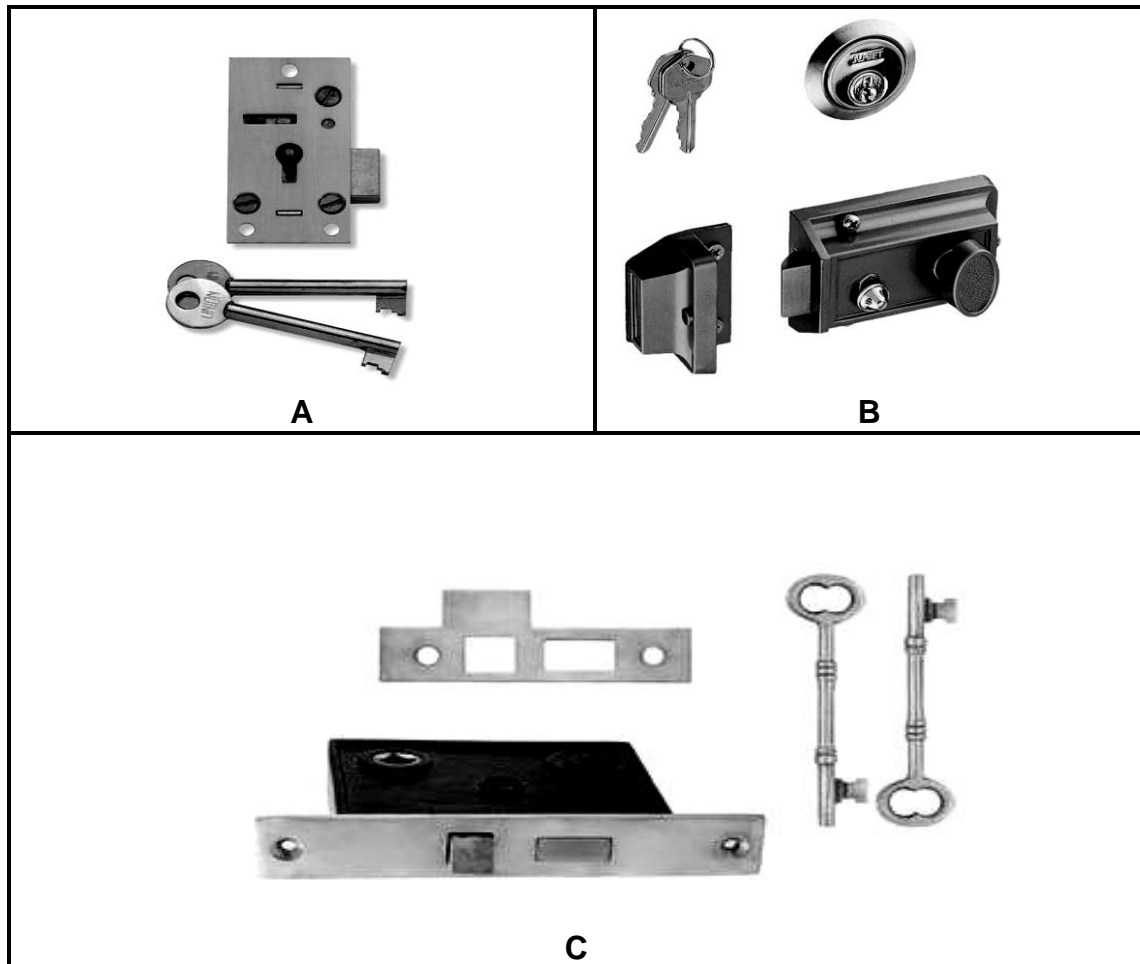

FIGURE 6.3
6.3 FIGURE 6.3 below shows THREE types of locks used in the building industry. Study the pictures and answer the questions that follow.